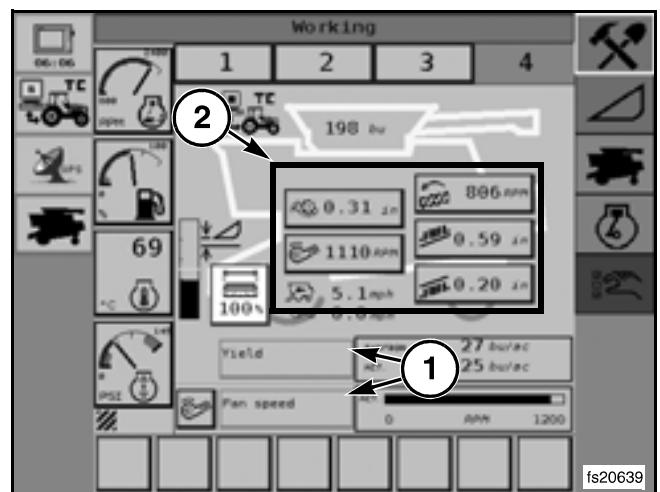

FIG. 121
FIG. 121: Page four is the combine working screen where the operator can only select two functions (1). The screen displays the silhouette of the combine along with some of the important functions of the combine.